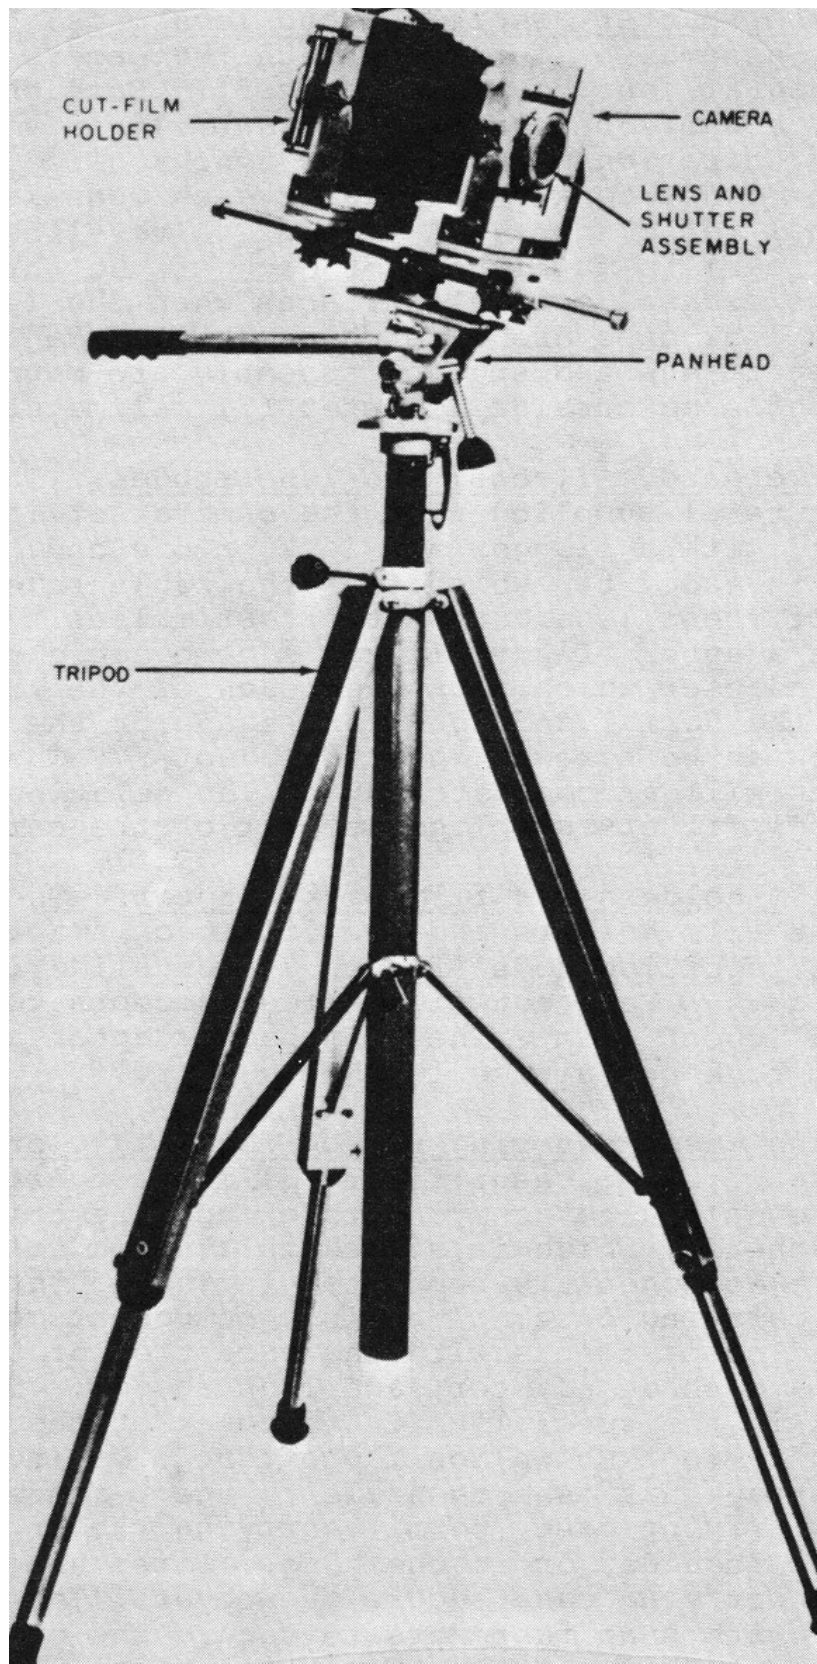
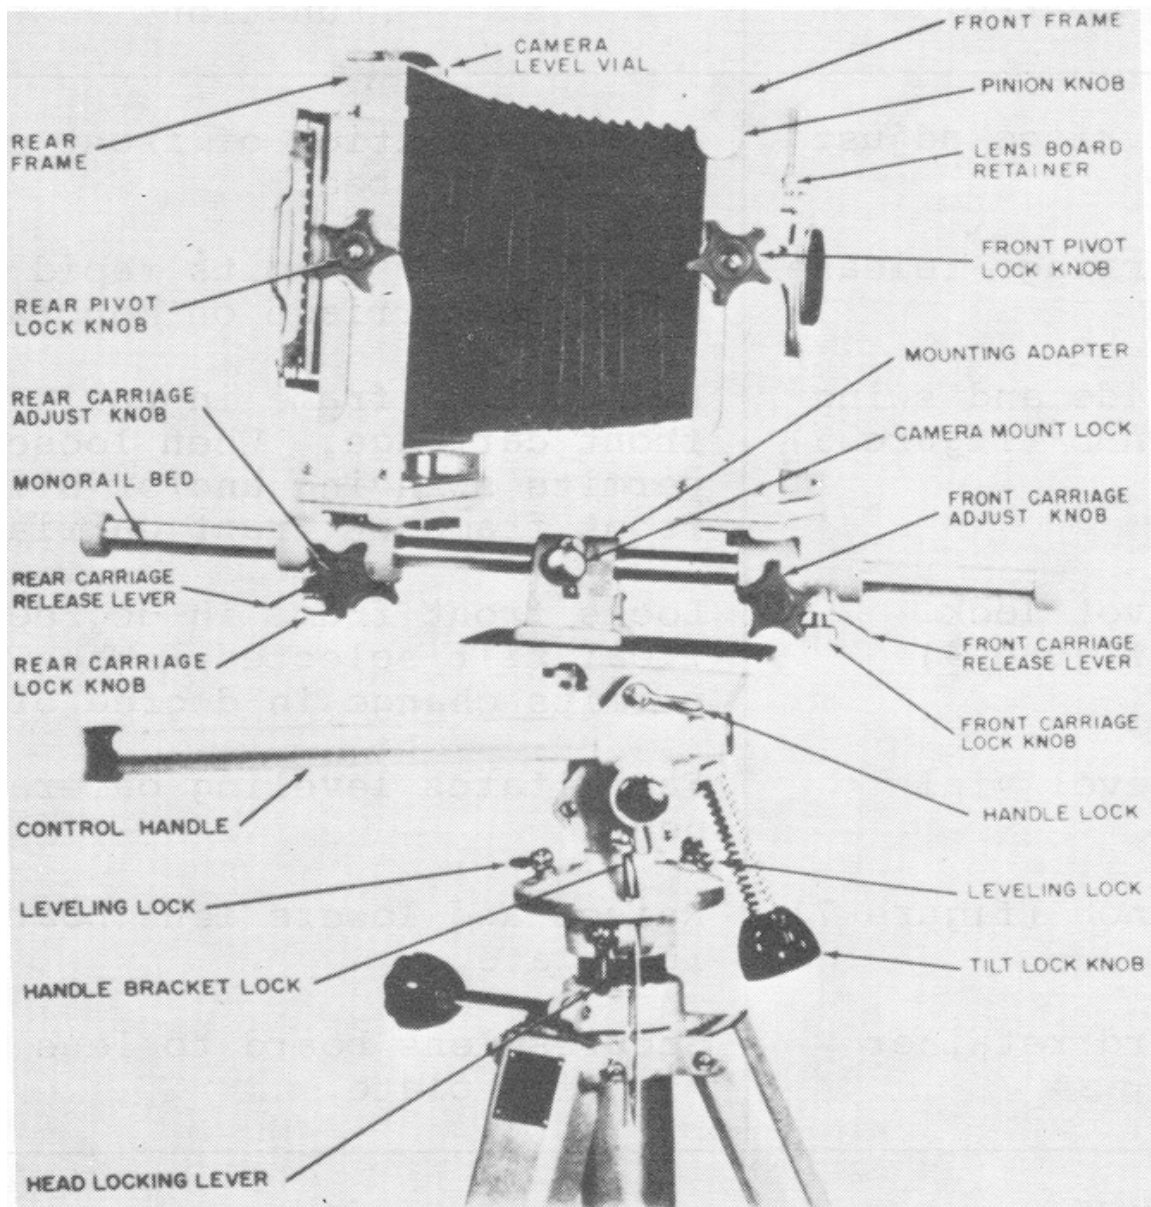
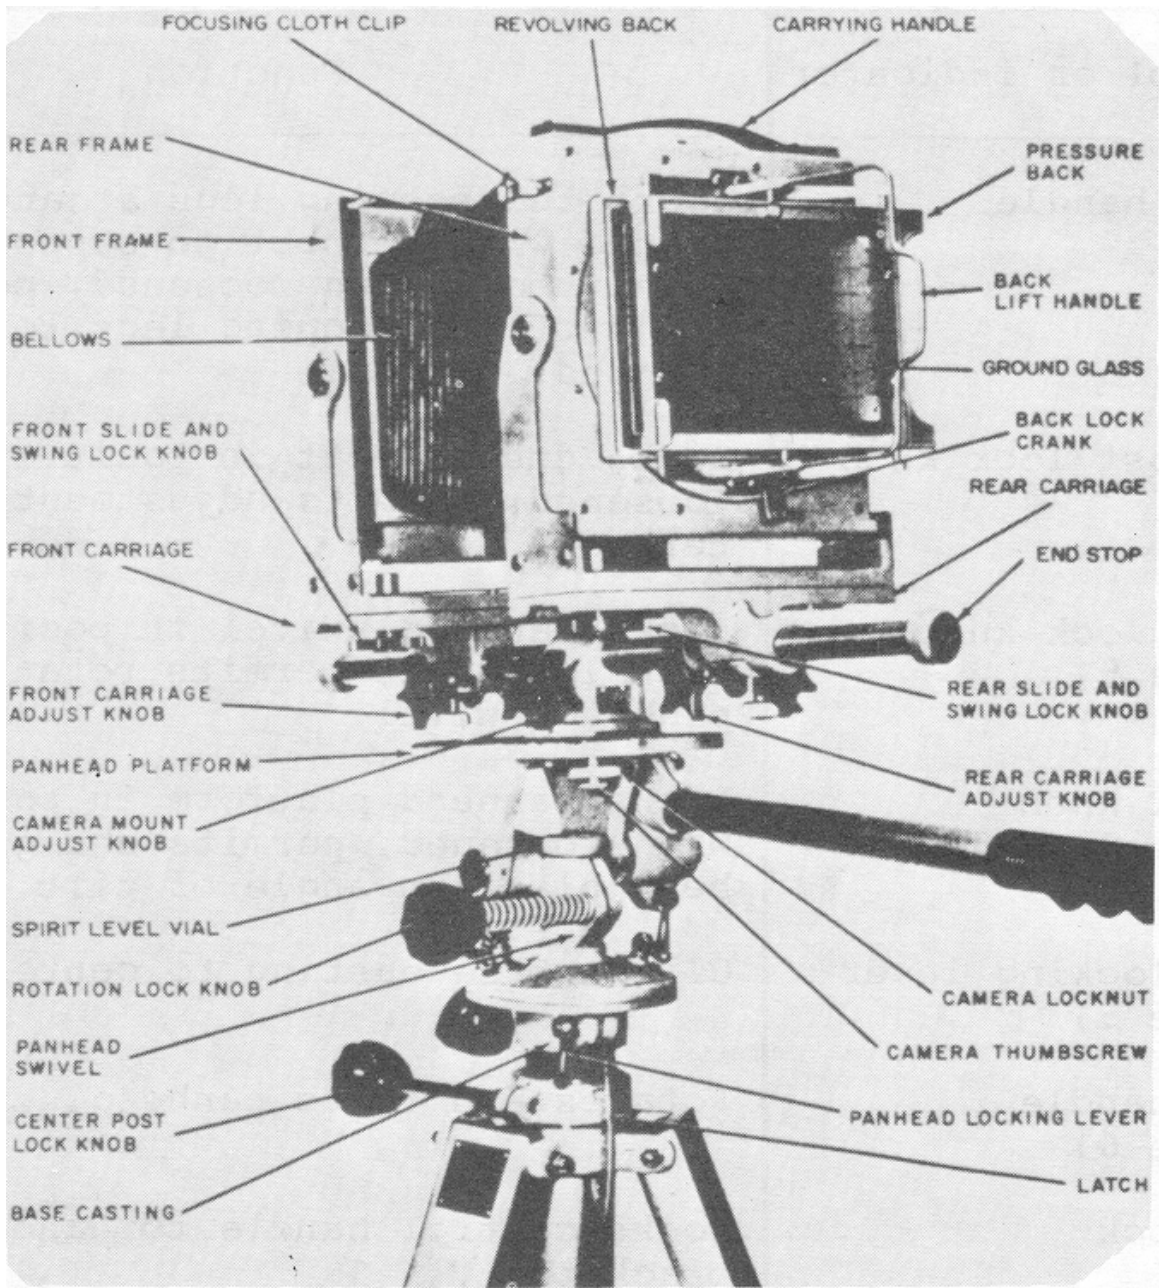
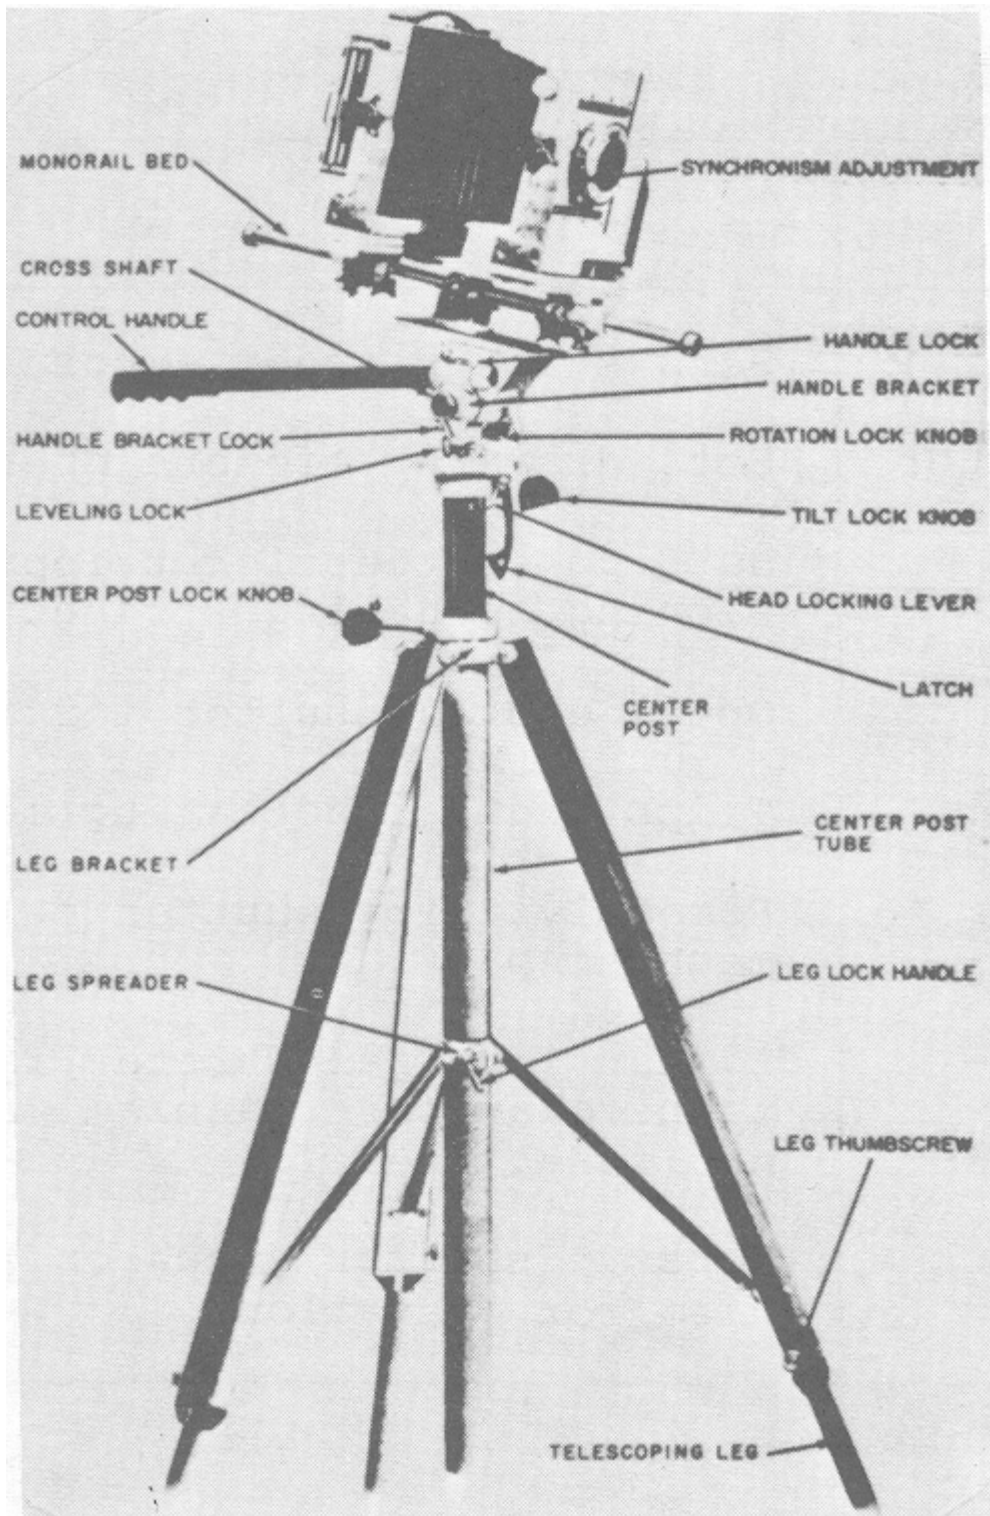

FIGURE 2. Camera mounted on tripod.
FIGURE 4. Camera component and tripod, right side view, operating controls.
FIGURE 5. Camera component, left rear view, operating controls.
FIGURE 6. Tripod, operating controls.
a. Camera component. The camera component, with a lens and shutter assembly attached, is a monorail bed view camera (figure 2). Focusing is accomplished by means of front and rear carriage adjust knobs (figure 4). An adjustable mounting adapter permits positioning the monorail bed so that the camera's center of gravity is over the point of attachment to the panhead (figure 2). The camera has provisions that permit vertical tilt, horizontal swing, and lateral and vertical movement of the optical axis and film plane with respect to each other. Click stops facilitate retiming movable parts to their normal resting position. A rack and pinion gear arrangement allows the lens and shutter assembly to be raised or lowered with respect to the camera's film plane. A camera level vial (figure 4) is provided on the
top of the rear frame to facilitate the leveling of the camera when it is set up for operation. A lift handle (figure 5) attached to the revolving back permits the cut film holder and film pack adapter to be inserted in the camera easily. A 360° revolving back arrangement permits composing and making vertical or horizontal photographs without disturbing the camera's position on the tripod.
b. Tripod. The tripod (figure 2) is equipped with a detachable panhead and a springloaded central support column (center post). The center post can be raised or lowered in a center post tube to which the three telescoping legs are attached. Each leg telescopes in two sections and is equipped with a rubber foot. A spirit level vial (figure 5) is provided on the panhead to facilitate leveling the equipment when it is set up for operation.
Camera mount lock (figure 4)	Locks camera mount on monorail bed. When loosened, permits change of camera mount position on monorail bed.
Camera mount adjust knob (figure 5)	Positions camera mount on monorail bed.
Rear carriage lock knob (figure 4)	Locks rear carriage on monorail bed. When loosened, permits rear carriage to slide on monorail bed.
Back lift handle (figure 5)	Raises pressure back to facilitate cut film holder and film pack adapter insertion.
Rear slide and swing lock knob	Locks rear frame (figure 4) on rear carriage. When loosened, permits swinging and/or sliding of rear frame on rear carriage.
Rear pivot lock knob (figure 4)	Locks rear frame at degree of vertical tilt selected. When loosened, permits change in degree of vertical tilt.
Front slide and swing lock knob (figure 5)	Locks front frame in position on front carriage. When loosened, permits swinging and/or sliding of front frame on front carriage.
Front pivot lock knob (figure 4)	Locks front frame in degree of vertical tilt selected. When loosened, permits change in degree of tilt.
Leg thumbscrews (figure 6)	Locks telescoping legs in position. When loosened, permits telescoping legs to be lengthened or shortened.
Rotation lock knob (figure 5)	Locks panhead swivel in position. When loosened, permits rotation of panhead swivel.
Tilt lock knob (figure 6)	Locks panhead platform in position. When loosened, permits changing panhead platform angle of tilt.
Panhead locking lever (figure 5)	Clamps base casting to center post.
Control handle (figure 6)	Rotates and tilts panhead.
Latch (figure 5)	Secures center post in telescoped position.
Leveling locks (figure 6)	Secure head casting to base casting.
Panhead level vial (figure 5)	Facilitates leveling tripod.
35. You want to change the focal length of the camera (distance between lens and ground glass). Which of the following controls should you use to do this? (Ref. figure 4)
a. Loosen the three leg thumbscrews (figure 6) and extend the three telescoping leg extensions. Perform this operation with the telescoping legs closed against the center post tube so that all three legs can be extended approximately the same amount.
NOTE: The position of the control handle with respect to the plane of the panhead platform (figure 5) can be changed by loosening the handle bracket lock and shifting the handle bracket on the cross shaft. Tighten the handle bracket lock securely after making the desired adjustment. The protrusion of the control handle (figure 6) may be shortened by loosening the handle lock and sliding the shaft of the control handle in the handle bracket. Tighten the handle lock securely after adjusting the control handle.
e. Loosen both the leveling lock and shift the position of the upper portion of the base casting until the spirit level vial (figure 5) indicates a level condition. Only limited adjustment is available by this method. If leveling cannot be obtained, lengthen or shorten one of the telescoping legs to bring the panhead within range of the base casting adjustment. Tighten leveling locks securely after making the final adjustment.